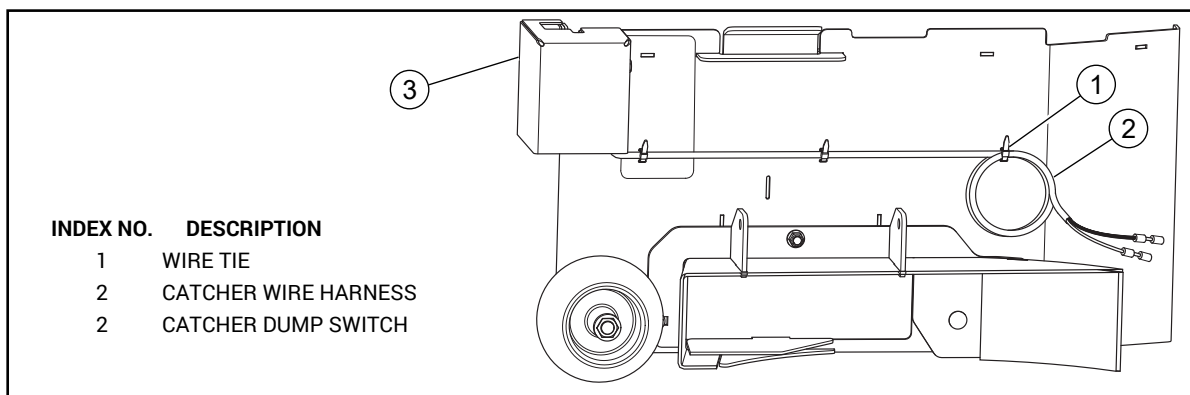

FIG. 8
11. Coil the excess DFS wire harness from the DFS switch. Secure with the wire tie. Fig. 8